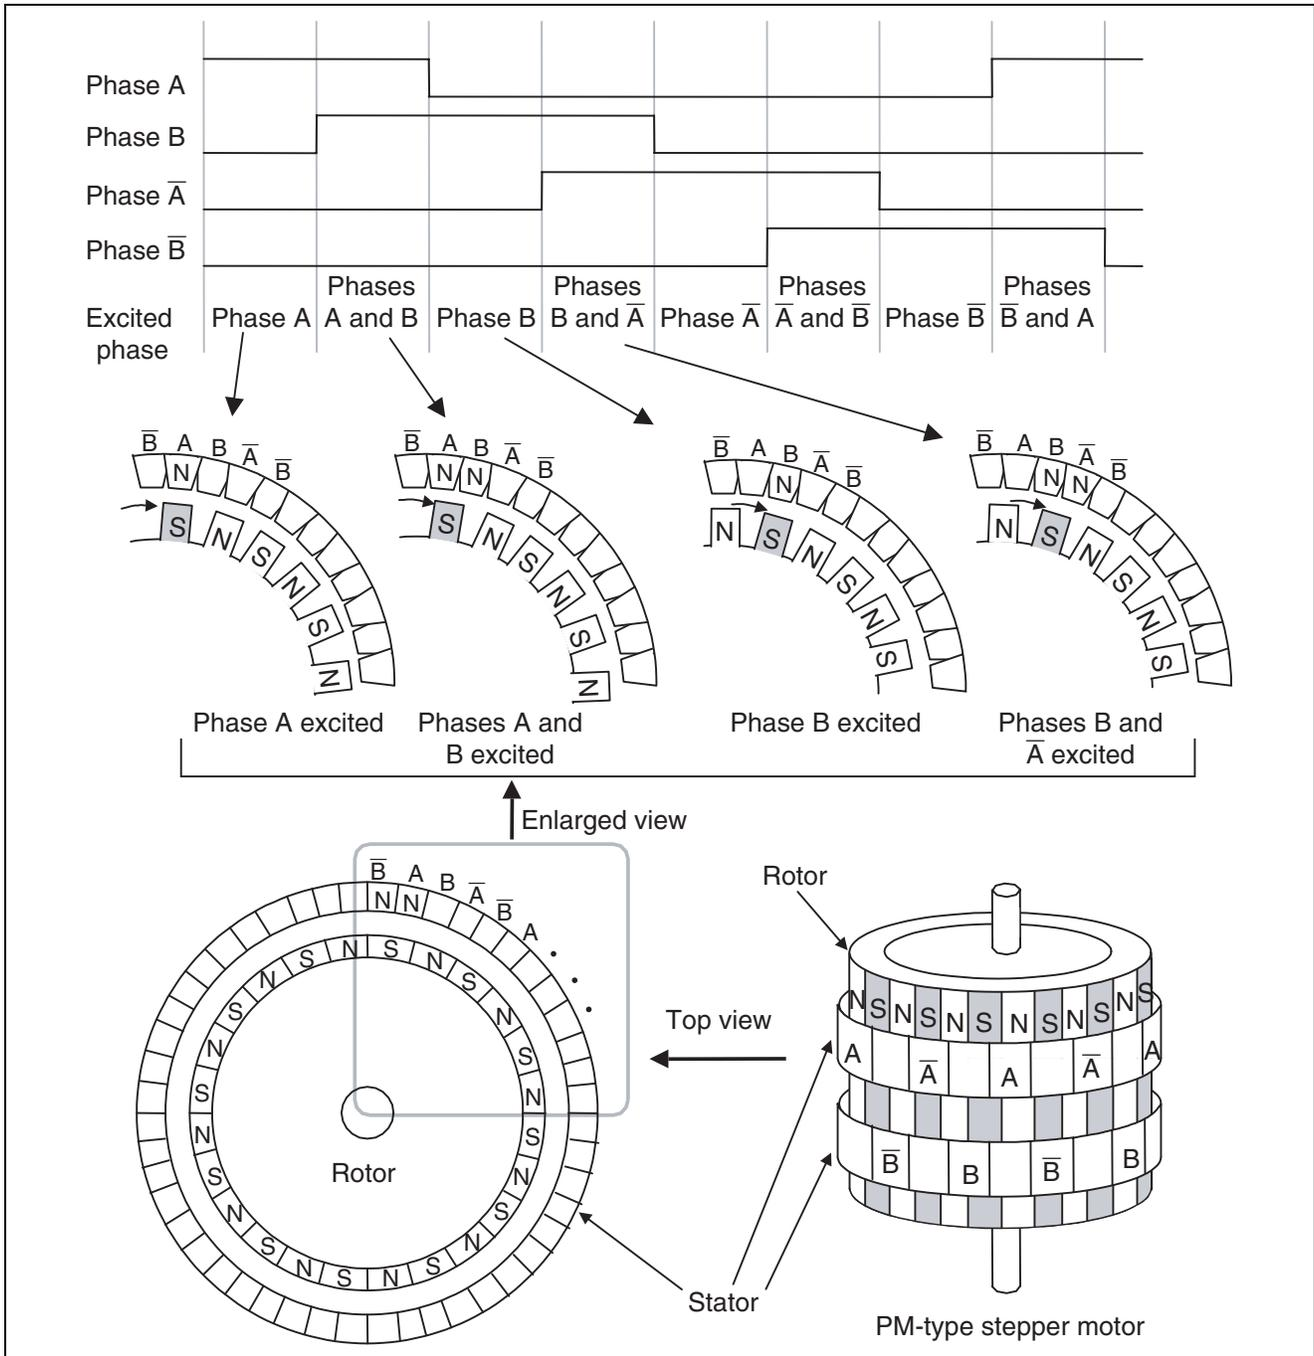

Figure 5 Example of Stepper Motor Operation
Figure 5 shows an example of operating the two-phase stepper motor with a stepping angle of 7.5 [deg./step] by using 1-2 phase excitation. The operation is outlined below.
- As shown in Figure 5, a high pulse causes the corresponding phase to be excited.